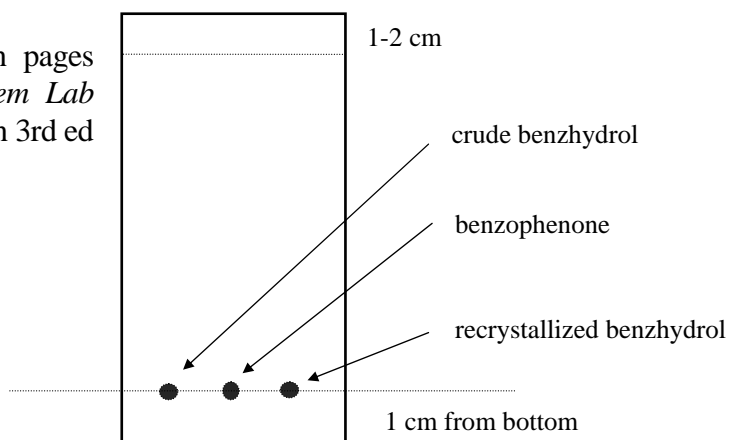

Figure 12.2 Appearance of the freshly spotted TLC plate
- Use the supplied capillary tube to spot the pre-prepared TLC plate with each of three solutions prepared in step 1, above, as shown Figure 12.2).